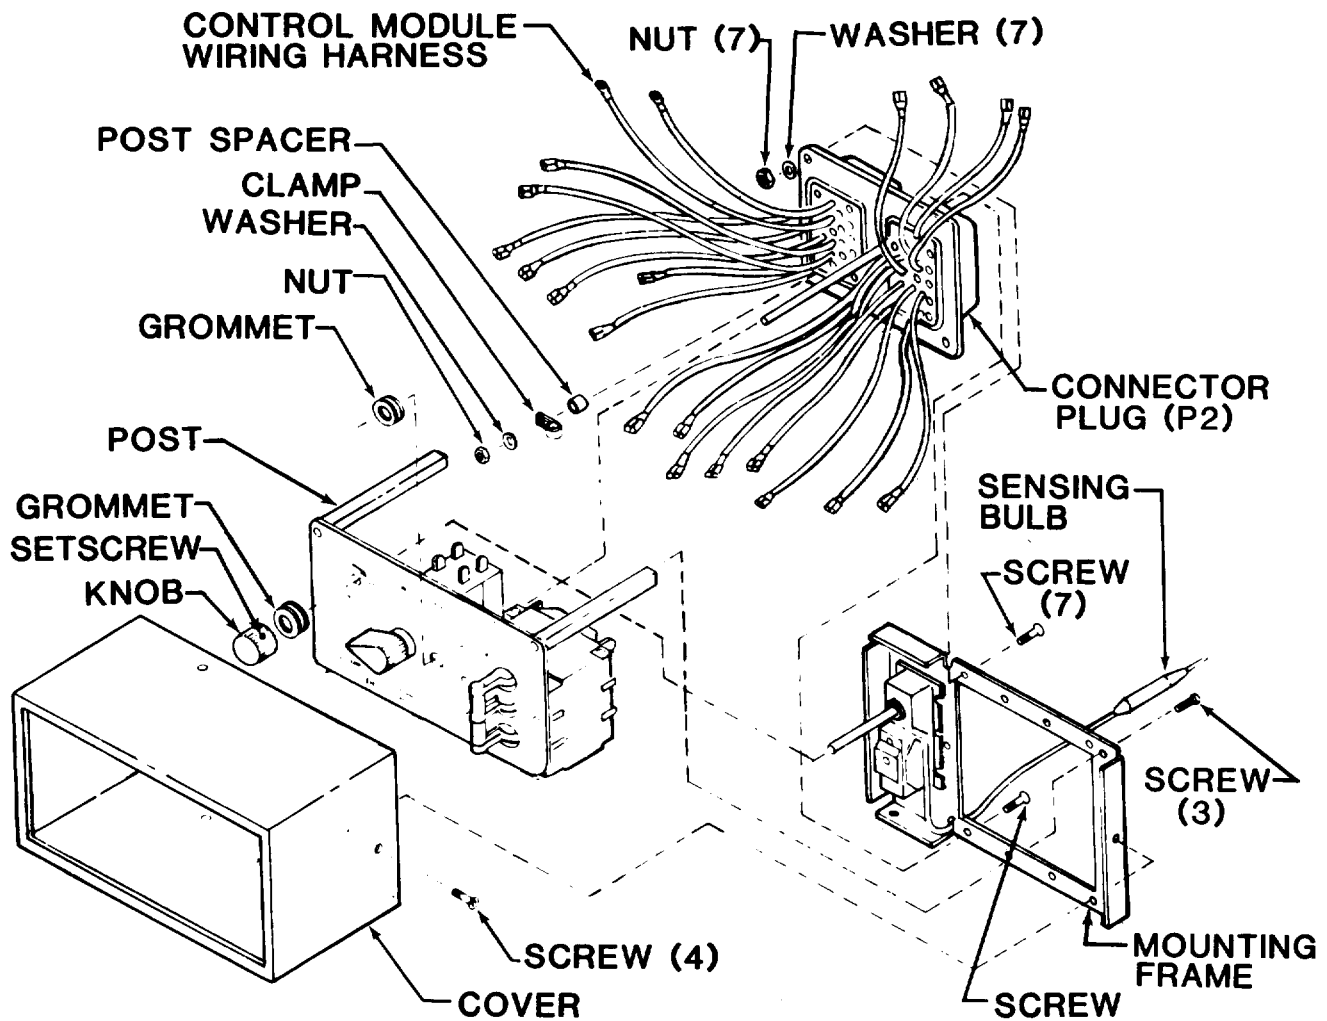

Figure 4-21. Control Module Wiring Harness
a. Inspect. (See fig. 4-21.)
(1) Disconnect power at power source.
(2) See paragraph 4-21a and remove control module.
(3) See figure 4-21 and remove four screws and pull the cover off.
(4) Inspect connector for loose, damaged or missing pins. Replace if defective.
(5) Check individual wires for loose solder connections, loose terminal lugs, cut or frayed insulation cut or broken wires.